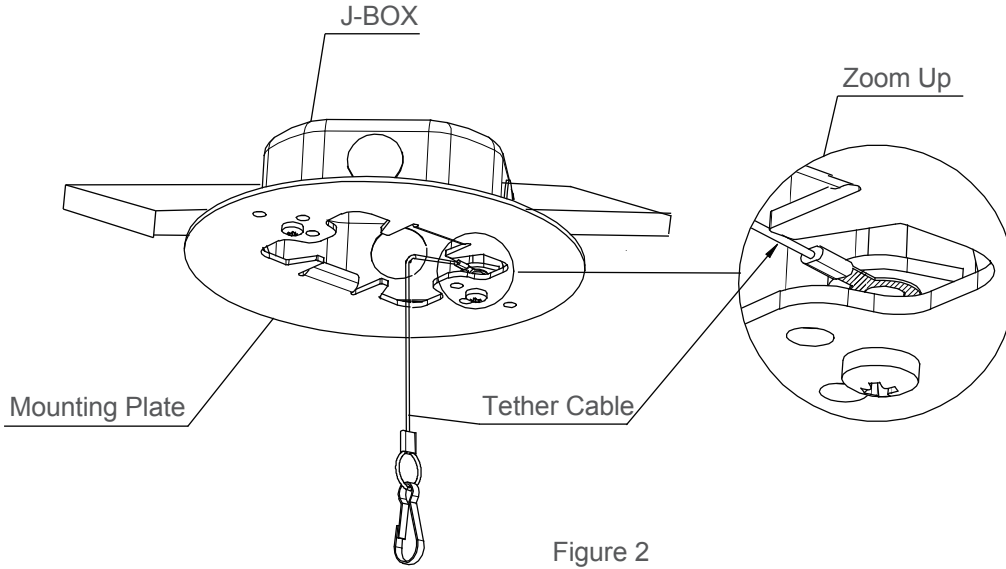

Figure 2
3. Secure Mounting Plate and Tether Cable to J-BOX (by others) with (2) Screws #8 through the right J-BOX Mounting Holes. Make sure the Tether Cable is between J-BOX and Mounting Plate. The flat surface of Mounting Plate is facing down and the surface with Fins is toward to the J-BOX. See Figure 2 and 3.